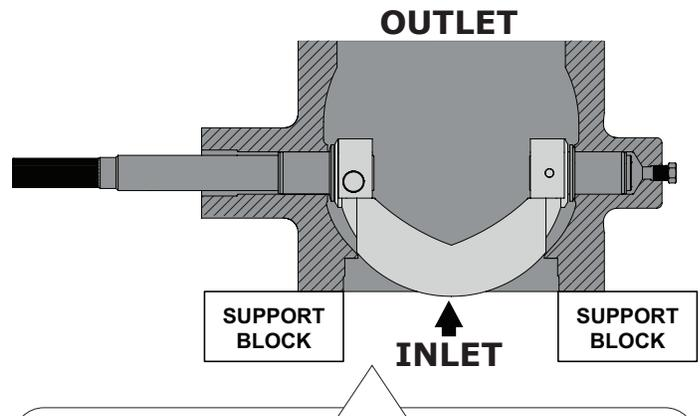

Figure 14 Valve Placement for 6" to 16" Disassembly
- Place 1 to 4 inch valves face up (inlet side up) on your work surface, valve balls (Key 6) for these small sizes can only be removed from the inlet side. All other sizes will need to be placed face down (inlet side down) on the work surface. It is recommended that these larger sized valves be placed on blocks to allow for unobstructed ball rotation (refer to Figure 14). **NOTE:** Blocks must be able to support the weight of the valve assembly. **WARNING:** Use caution and control the movement of the ball while moving the valve assembly, ball and shaft may rotate freely and cause damage or injury.
- 1 Place the valve assembly in the appropriate position for the size of valve being disassembled, inlet or outlet side down. Refer to BEFORE YOU BEGIN on Page 18 and Figure 14.
- 1 Place the valve assembly inlet side down. **NOTE:** The valve ball (Key 6) can only be removed from the outlet side of the body (Key 1). Refer to BEFORE YOU BEGIN on Page 18 and Figure 14.